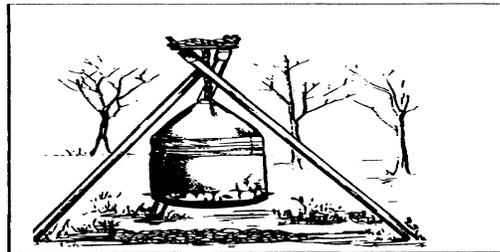

Figure 3-9. Water sterilizing bag
3. Place the water-sterilizing bag in the designated area. See Figure 3-9.